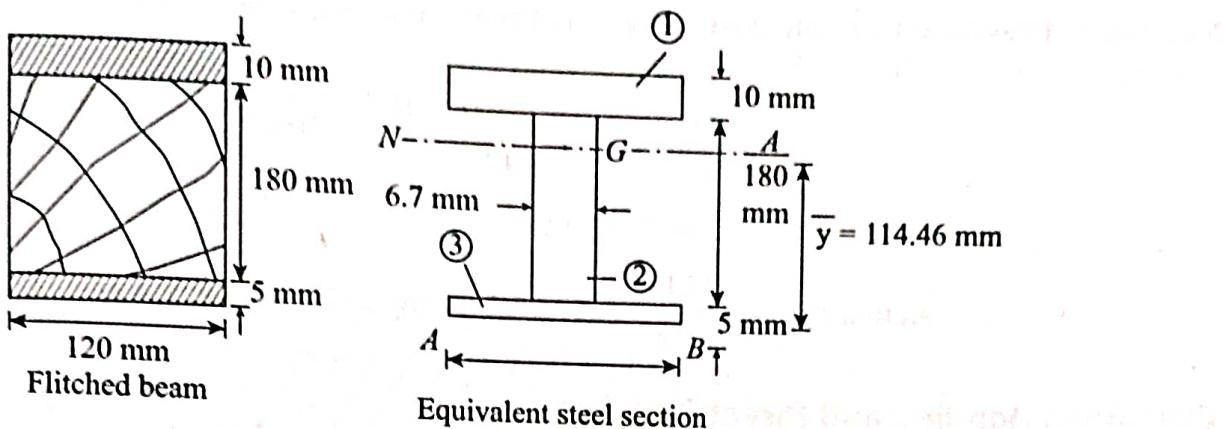

Figure 9.17
**EXAMPLE 9.11:** A wooden beam 120 mm wide and 180 mm deep is to reinforced by two plates 120 mm × 10 mm and 100 × 5 mm. The thicker plate is secured to the top and thinner one to the bottom surface as shown in Fig. 9.17. The permissible stress in steel is 140 MPa and the value of modular ratio is 18. Calculate moment of resistance of strengthened section. Also determine maximum stress in wood (timber).